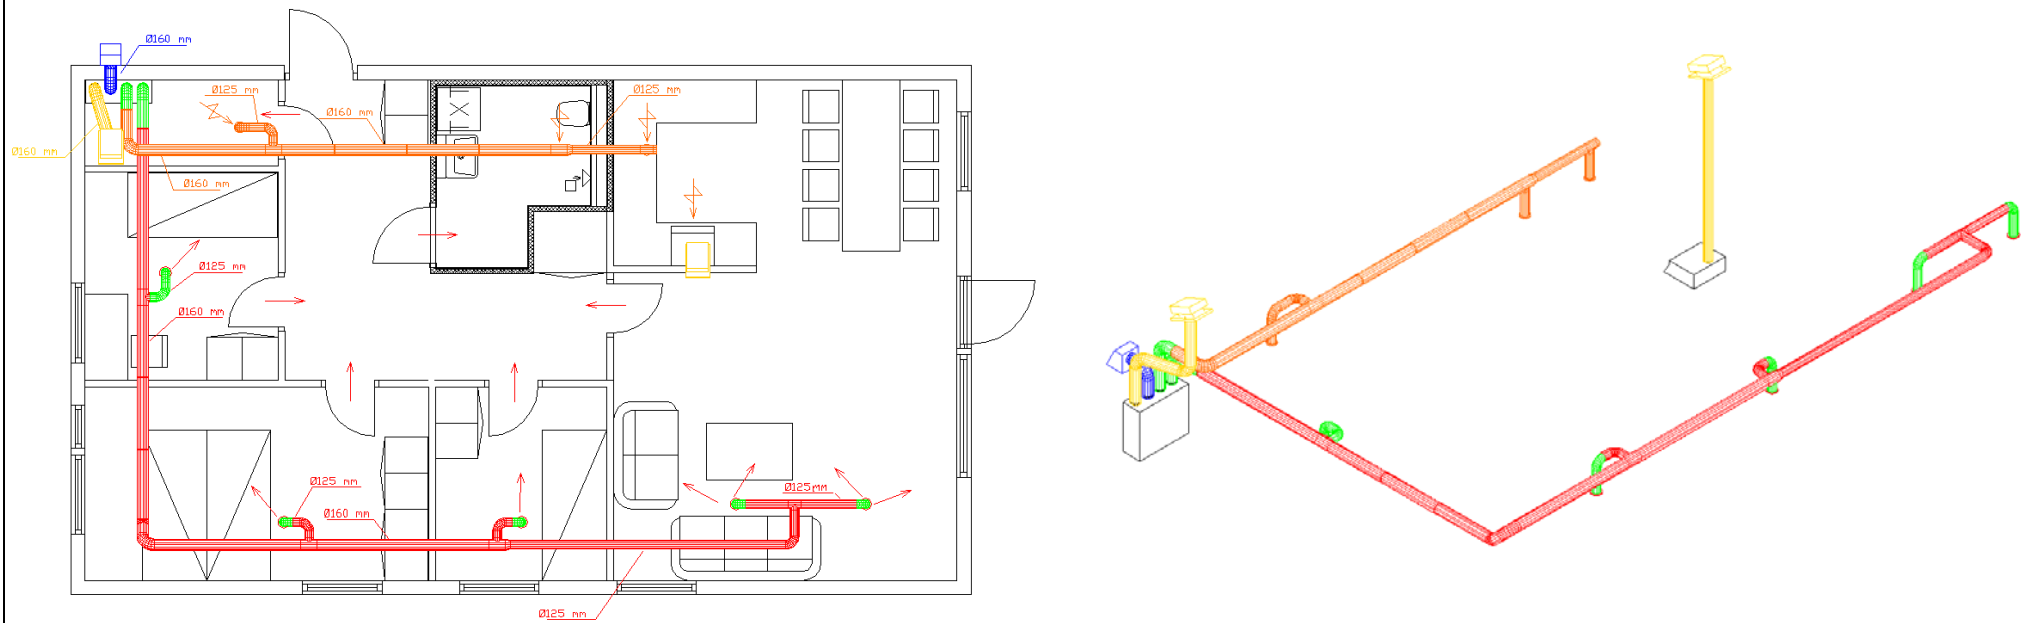

Fig. 2
**N****KANALANLEGG****Generelt (Fig. 2)**
**S****KANALSYSTEM****Generelt (Fig. 2)**
**D****ROHRSYSTEM****Allgemeines (Fig. 2)**
**GB****DUCT SYSTEM****General (Fig. 2)**